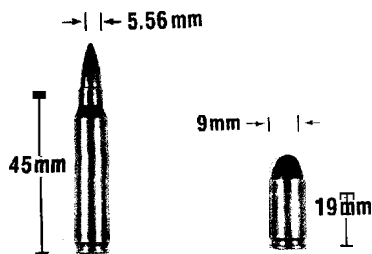

Fig. 1-2. The M193 round fired by an M16 assault rifle is on the left, the Parabellum round fired by the Beretta model M9 pistol is on the right.
**Measurement.** A complete round is characterized by (a) the diameter of the bullet, known as the *caliber* and measured in millimeters or, occasionally, in *caliber units* (one caliber equals 1/100 inch) and (b) the length of the cartridge (also in millimeters). Thus, the complete rifle round shown in Figure 1-2 would be designated as 5.56 (the caliber) x 45 mm (the length), and the pistol round would be 9 x 19 mm.
contains), the higher the bullet velocity will tend to be at any given point on its path, and the greater its effective tactical range and penetration will be as well. Not surprisingly, the bullet from the rifle round shown in Figure 1-2 has an appreciably higher muzzle velocity (3,200 fps) than does the bullet from the pistol round (1,100 fps).